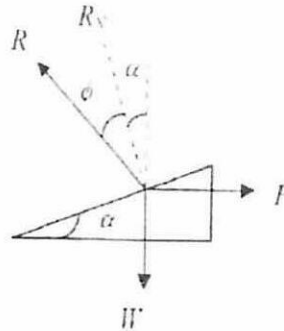

Figure Q4.1
- Q4 (a) A diagram of square threaded screw moving up a plane is shown in **Figure Q4.1**. The equation of the diagram given by $P = W \tan (\alpha + \phi)$, where P is horizontal force, W is the load and α is the pitch angle.